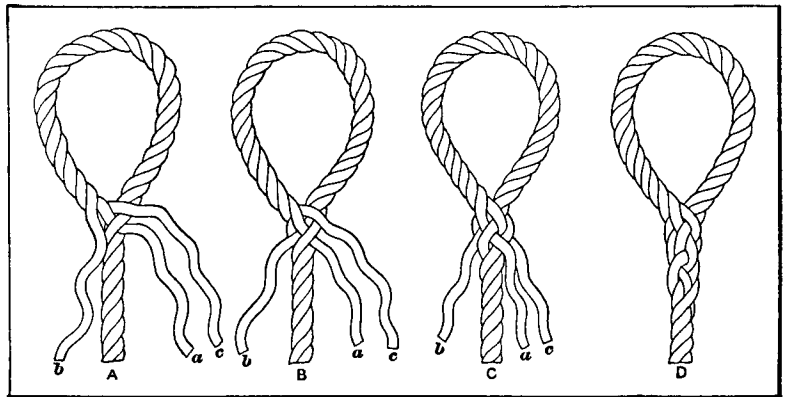

Fig. 3. Method of Making an Eye-splice
**Making an Eye-splice.** — When a loop is formed at the end of a rope by splicing the free end to the main or standing part of the rope, this is known as an *eye-splice*. The end of the rope is first unlaied about as far as it would be for making a short splice. After bending the end around to form a loop of the required size, the middle strand *a* (Fig. 3) is tucked under a strand on the main part of the rope, as illustrated at *A*. The strand *b* is next inserted from the rear side under the strand on the main part which is just above the strand under which *a* was inserted. Since strand *b* is pushed under the strand on the main part from the rear side, it will come out at the point where strand *a* went in, as illustrated at *B*. The third strand *c* is now passed over the strand under which strand *a* was inserted, and then under the next successive one, as illustrated at *C*. These three strands are next pulled taut and then about one-third of the fiber should be cut from them; they are next tucked away the same as when making a short splice, that is, by passing a strand over its adjoining one and under the next successive strand. The reason for cutting away part of the fiber or yarns is to reduce the size of the splice and give it a neater appearance. By gradually thinning out the fiber, the overlapping strands may be given a gradual taper, as indicated at *D*, which shows the completed eye-splice.